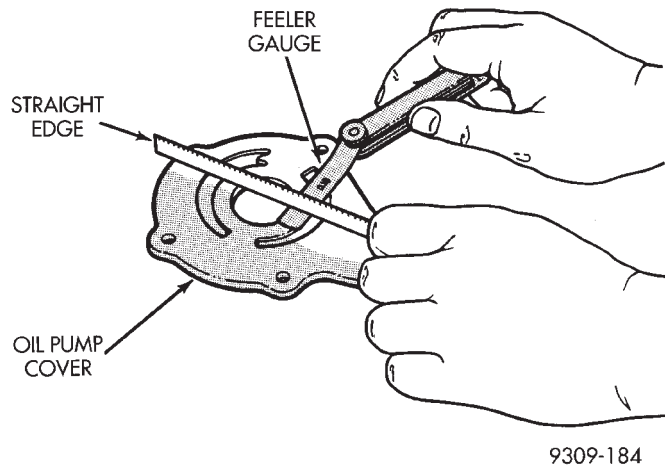

Fig. 108 Checking Oil Pump Cover Flatness
(1) Clean all parts thoroughly. Mating surface of the oil pump housing should be smooth. Replace pump cover if scratched or grooved.
(2) Lay a straightedge across the pump cover surface (Fig. 108). If a 0.076 mm (0.003 inch.) feeler gauge can be inserted between cover and straight edge, cover should be replaced.